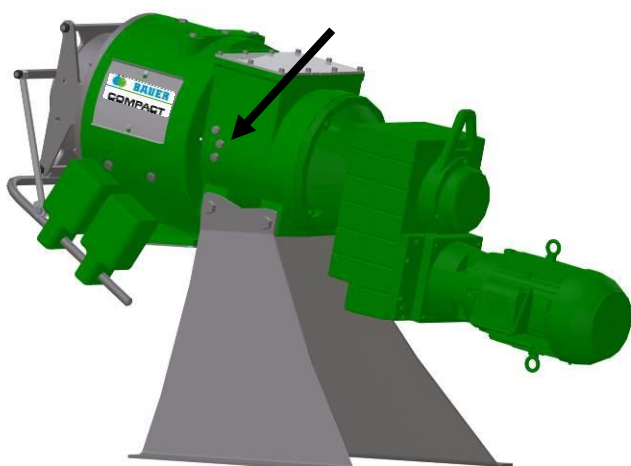

Fig. 13-13 Scraping bolts
6. Loosen the lock nuts of the scraping bolts and turn the scraping bolts roughly one turn counter-clockwise, see Fig. 13-13.
- Readjust scraping bolts (see section 13.3 Fig. 13-13)